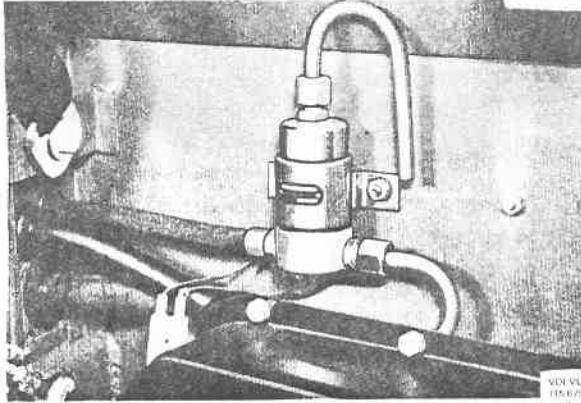

Fig. 38-18. Solenoid for front-wheel drive
2. Slacken the pipe and hose connection several turns at the solenoid, see Fig. 38-18.